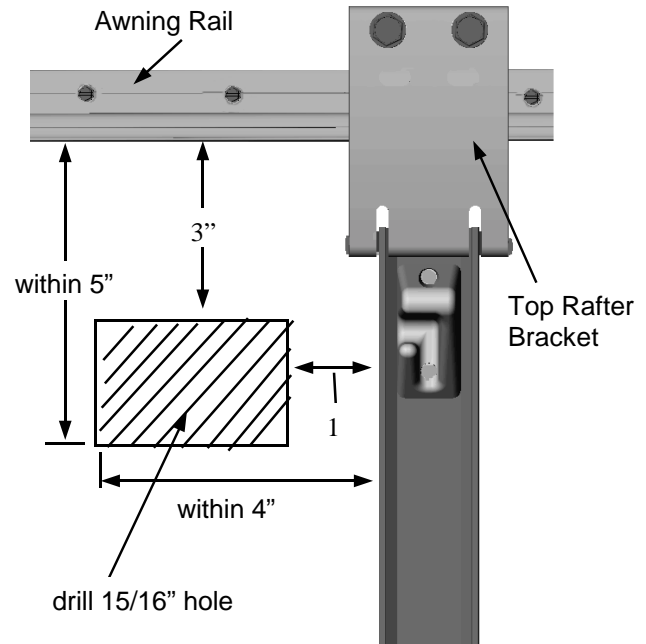

Figure. 11
A. Mark and drill a 15/16" hole in the exterior side wall, 3" - 5" below the slot in the awning rail and 1" - 4" to the left of the front arm of the awning (**figure 11**).